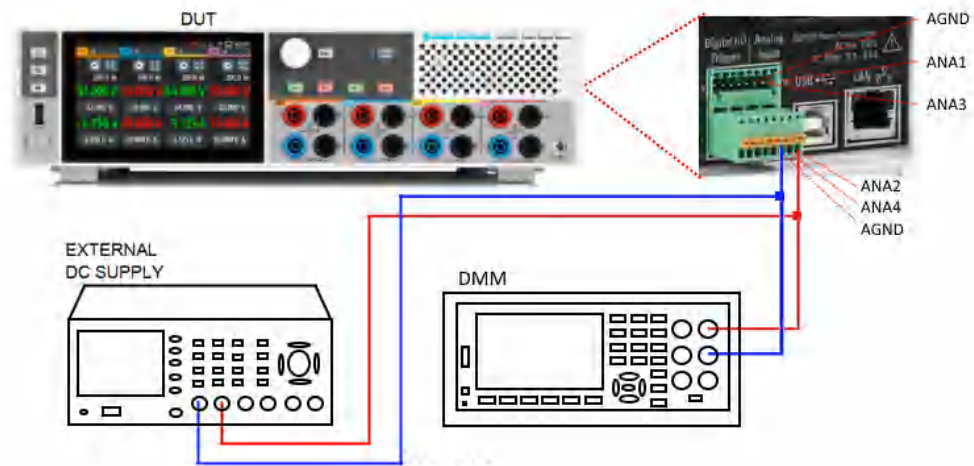

Figure 6-42: Analog input adjustment setup
- Setup the adjustment with instruments illustrated in Figure 6-42.